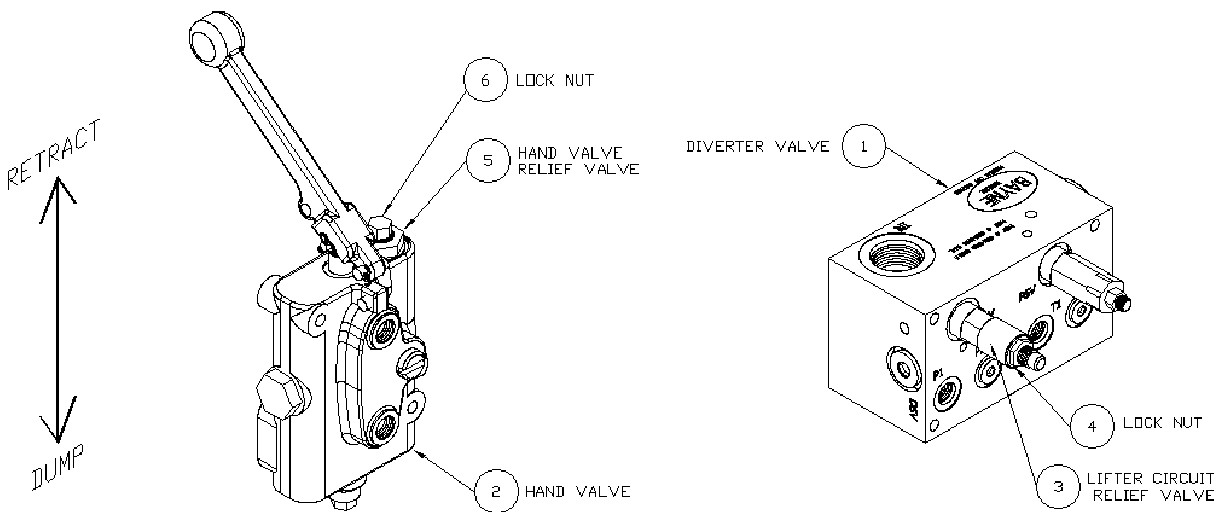
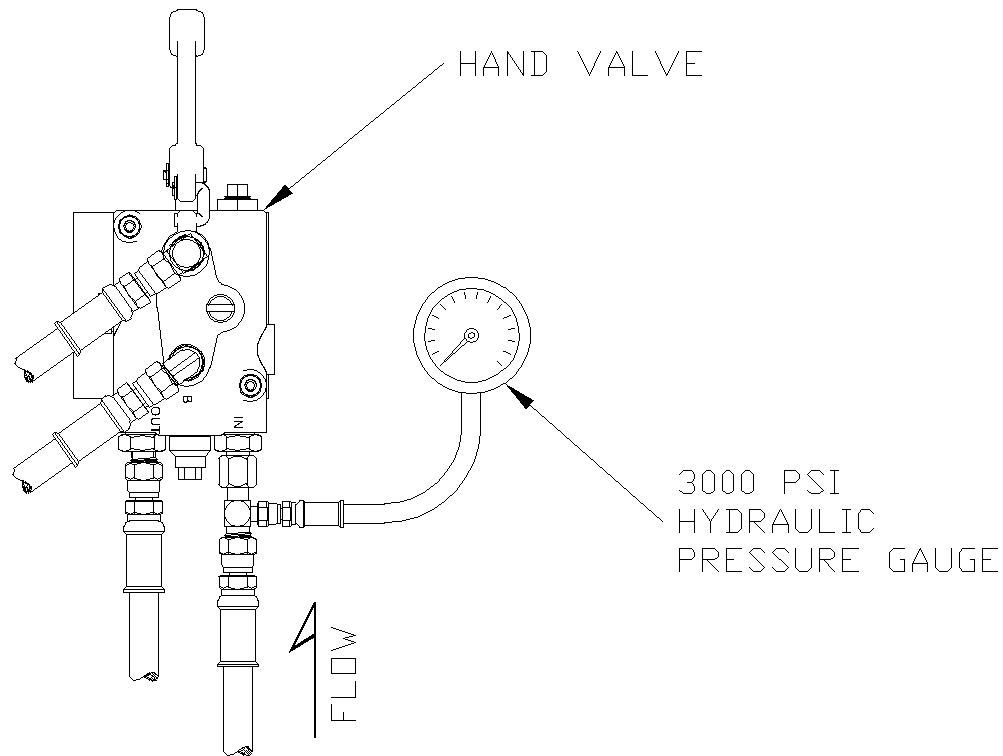

Figure I-4
Figure I-5
The diverter valve (1) (figure I-4) supplies the cart lifter hydraulic system with approximately 2 GPM of oil flow. This diverter valve is equipped with a full system relief valve (4) set at 2500 psi, to protect the truck's hydraulic system from any blockages that may occur down stream of the diverter valve. The diverter valve also includes a lifter circuit relief valve (3) set at 2300 psi, to prevent the diverter valve from shutting down if a blockage occurs in the lifter circuit. There is also a relief valve (5) set at 1800 psi in the hand valve (2) to protect the lifter from excessive pressure. These relief valves are preset from the factory to operate properly on most trucks with a system pressure between 2300 and 2500 psi without any adjustment. However, if any adjustment is necessary, follow these instructions.
2. Remove the cap nut(s) (8) (*figure I-4*) from the hand valve relief valve(s) (5) and turn the adjustment screw(s) clockwise until it bottoms out.
3. Loosen the lock nut (6) (*figure I-4*) on the lifter circuit relief valve (3) and turn the adjustment screw clockwise until it bottoms out.
4. Loosen the lock nut (7) (*figure I-4*) on the full system relief valve (4) and turn the adjustment screw counter-clockwise until it stops backing out.
7. Operate the handle on the hand valve (2) (*figure I-4*) back and forth a few times to bleed all air from the lifter hydraulic system.
- a) Have an assistant hold the handle on the hand valve (2) (*figure I-4*) in the "retract" position. *If installing dual lifters hold the handle down on only one of the hand valves.*
- b) Turn the pressure relief adjustment screw on the full system relief valve (4) clockwise until the pressure reading on the gauge is either 100 psi above truck system pressure, or if the pressure reaches a certain point and will not go any higher, set the adjustment screw 1/2 turn past that point.
11. Install the 3000 psi hydraulic pressure gauge with the necessary adapter in the hydraulic line connected to the "IN" port of the hand valve as shown in figure I-5. *If installing dual lifters, install the hydraulic gauge at either one of the hand valves.*
- a) Have an assistant hold the handle on the hand valve (2) (*figure I-4*) (*with pressure gauge installed at the "IN" port*) in the "retract" position to show pressure on the gauge.
- b) Turn the pressure relief adjusting screw on the lifter circuit relief valve (3) counter-clockwise until the pressure reading on the gauge is either 100 psi less than the truck system pressure or 2300 psi, which ever is the lowest.
- a) Hold the handle on the hand valve (2) (*figure I-4*) (*with pressure gauge installed at the “IN” port*) in the “retract” position to show pressure on the gauge.
- b) Turn the pressure relief adjusting screw on the hand valve relief valve (5) counter-clockwise until the pressure reading on the gauge is either 200 psi less than truck system pressure or 1800 psi, which ever is the lowest.
- f) *For dual lifters, install the hydraulic pressure gauge in the “IN” port of the other hand valve as shown in figure I-5, start the truck’s engine, engage the hydraulic system, and repeat step 14.*
15. Reinstall the cap nut(s) (8) (*figure I-4*) on the hand valve relief valve(s) (5) to secure the correct pressure setting(s).
16. Tighten the lock nut (7) (*figure I-4*) on the full system relief valve (4) to secure the correct pressure setting.
17. Tighten the lock nut (6) (*figure I-4*) on the lifter circuit relief valve (3) to secure the correct pressure setting.